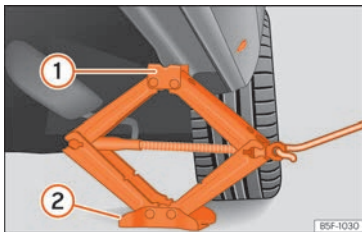

Fig. 39 Cross member: positioning the jack on the vehicle.
- Turn the jack crank handle, located below the strut support point, to raise it until the tab ① » » Fig. 39 is below the housing provided.
- Align the jack so that tab ① “grips” onto the housing provided on the strut and the mobile base ② is resting on the ground. The base plate ② should fall vertically with respect to the support point ①.